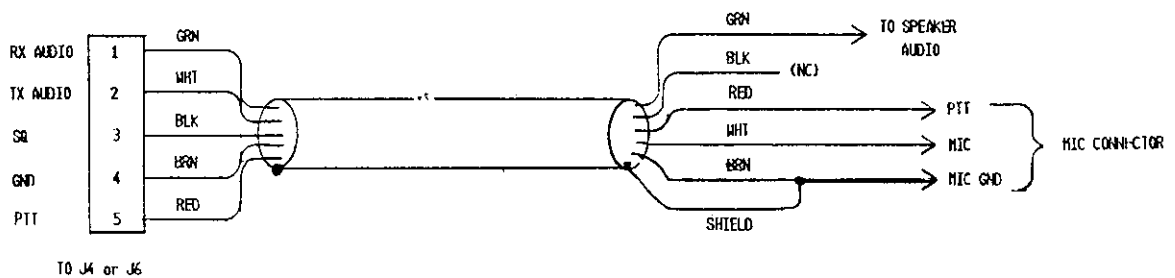

Figure 2-2 Radio-to-PK-232 Connections
- o Verify that your radio and PK-232 are connected as shown in Table 1-1 earlier in this manual, and Figure 2-2 below.
1. Connect your PK-232 and FM radio as shown in Figure 2-2. BE SURE THAT THE FIVE-PIN CONNECTORS EXIT DOWNWARD FROM J4 and J6.
1. Connect your PK-232 and SSB radio as shown in Figure 2-2.
**NOTE:** In the Calibrate mode only, the "K" key toggles the transmitter PTT line on and off. The "SPACE BAR" toggles the PK-232's AFSK tone generator from "Mark" (the lower pitched tone) to "Space" (the higher pitched tone). The PK-232 has a transmit watch-dog timer circuit that unkeys your transmitter automatically after sixty (60) seconds. As you perform the following adjustments, unkey periodically, then rekey the transmitter by typing "K."